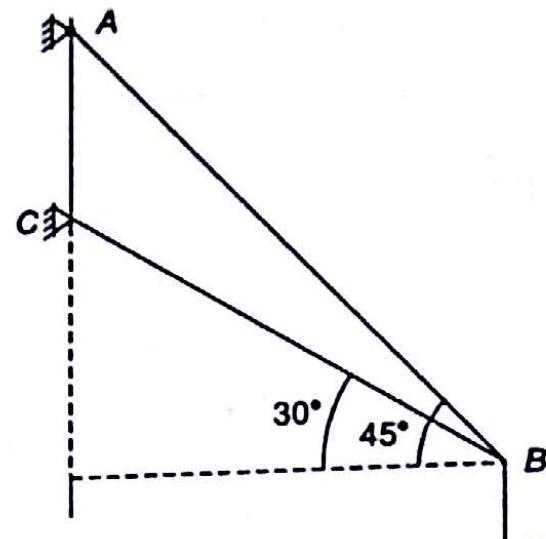

Fig. 4.45
- 4.18 A truss ABC , shown in Fig. 4.45 carries a load P at joint B . What is the force in the member AB ?